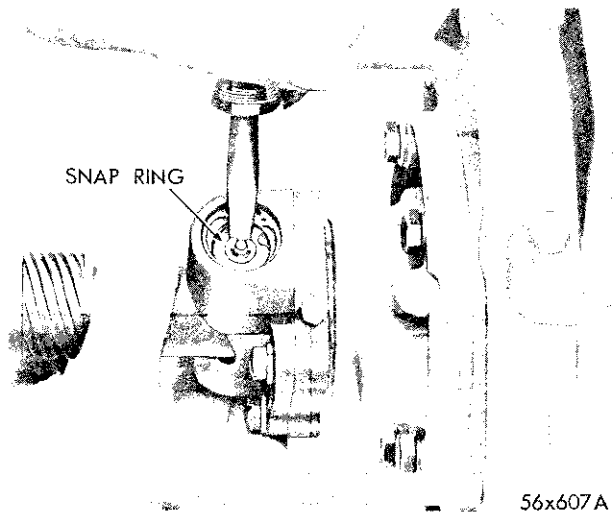

Fig. 36—Removal and Installation of Governor Valve Shaft Snap Ring
(1) Using a small screwdriver, remove the governor valve shaft snap ring from the weight assembly end, as shown in Figure 36.